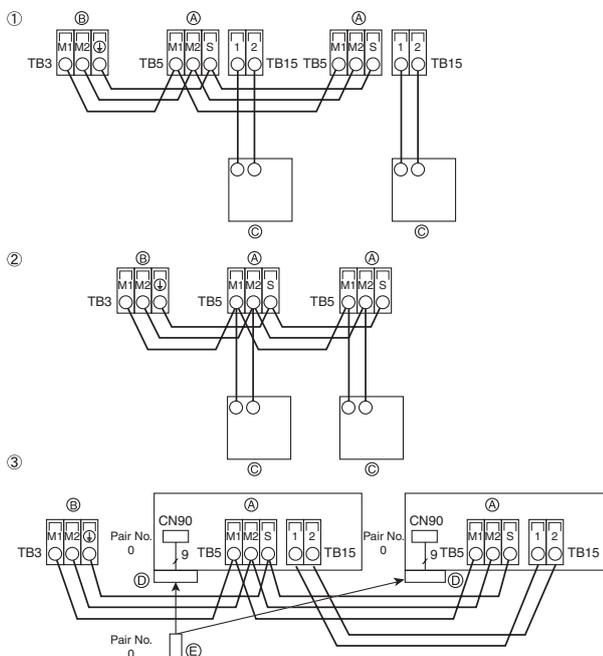

Fig. 4-3
- (A) Switch 16 A
- (B) Overcurrent protection 16 A
- (C) Indoor unit
- (D) Total operating current be less than 16 A
- (E) Pull box
4.2. Connecting remote controller, indoor and outdoor transmission cables (Fig. 4-3)